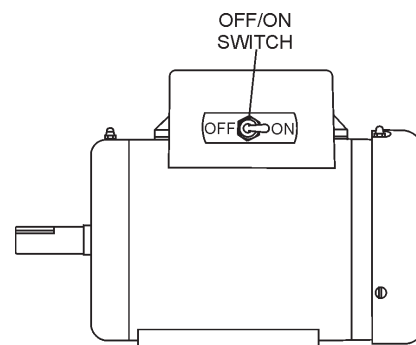

Figure 20. Electric Motor ON/OFF Switch
2. To start the electric motor, move the **ON/OFF** switch to the ON position (Figure 20).